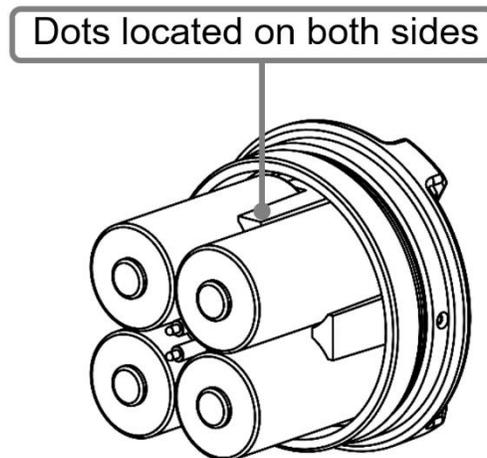

Figure 4. Side Marked With Dot Should Be Facing Up When Installed
Unscrew the Battery Compartment Cover (3). Install four CR123 batteries as shown in Figure 4 with + end of batteries facing out. Inspect the rubber O-ring inside the Battery Compartment Cover (3) for damage. Replace and/or lubricate if necessary. Slide Battery Compartment Cover (3) with installed batteries back into the HALO-LR Housing with one of the sides marked with light dots pointing up and screw Battery Compartment Cover (3) onto the HALO-LR Housing.